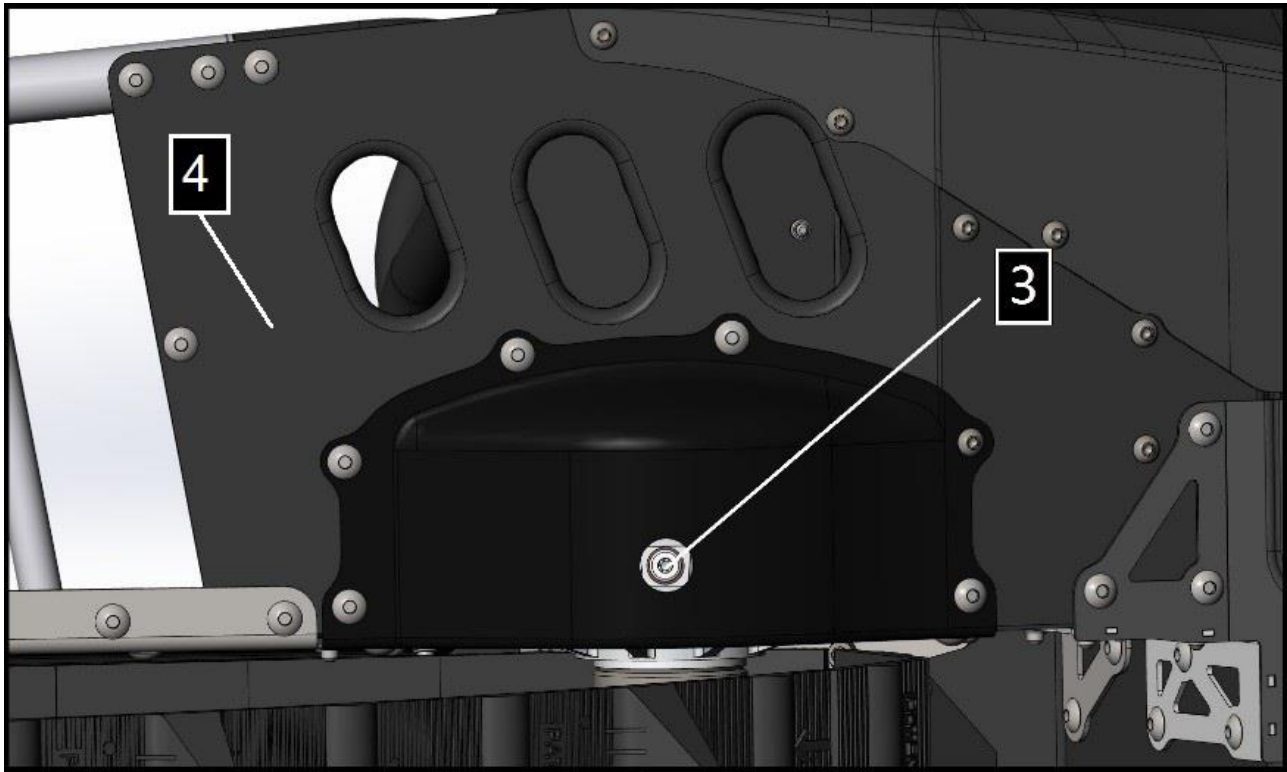

Fig. 28
2. Place the convenient container under the snowmobile and in the drain area of the right pedal area (pose 3, Figure 28) (pose 4, Figure 28).